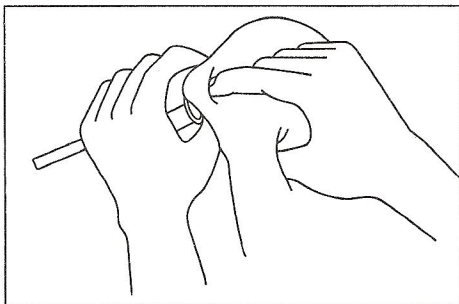

Fig. 07-16
1) Disassemble the plug and clean it with a piece of dry cloth (Please see Fig. 07-16).